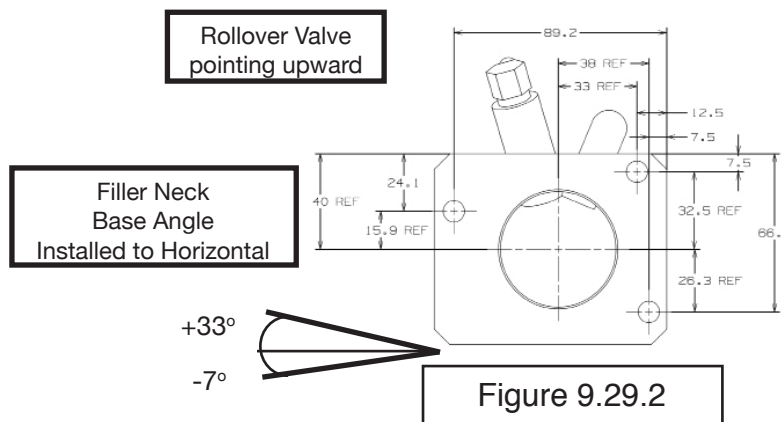

Figure 9.29.2
The fuel filler neck (5) must be installed with the proper orientation on the body. The neck should be installed with the roll-over valve pointing upward, with the bottom edge of the neck oriented parallel to the ground, plus 33 to minus 7 degrees. See **Figure 9.29.2** for the proper orientation.